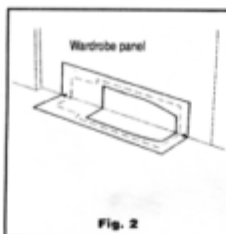

Fig. 2
4.3 Fold the template upwards along the arrows marked "Wall cut-out front face "RH" and place into position as shown in fig.2 with the rectangular cut-out to the right.